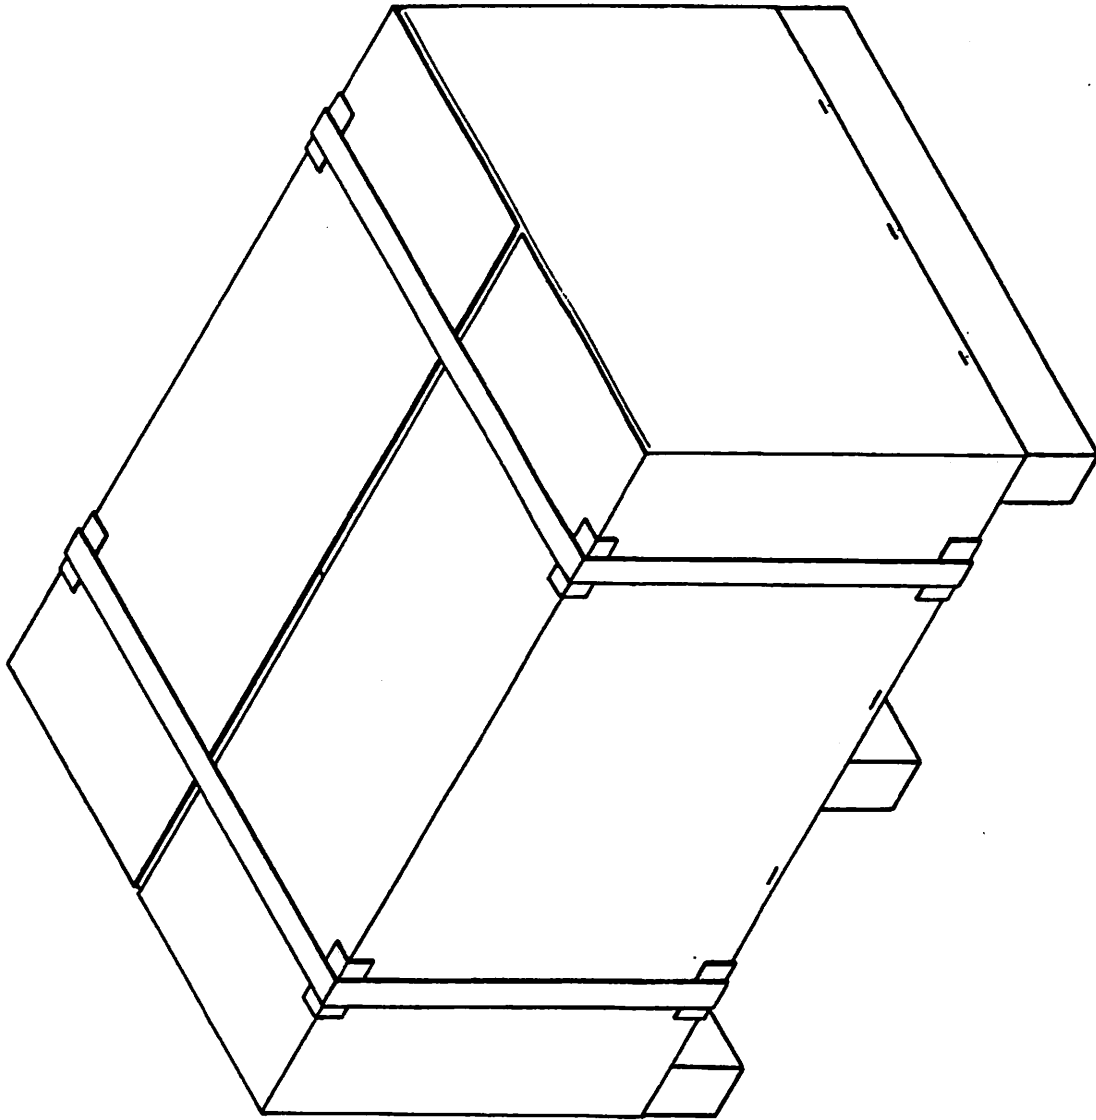

FIGURE 2-1 SHIPPING PACKAGE FOR PHOENIX DRIVE
- a. Cut the two metal straps shown in Figure 2-1